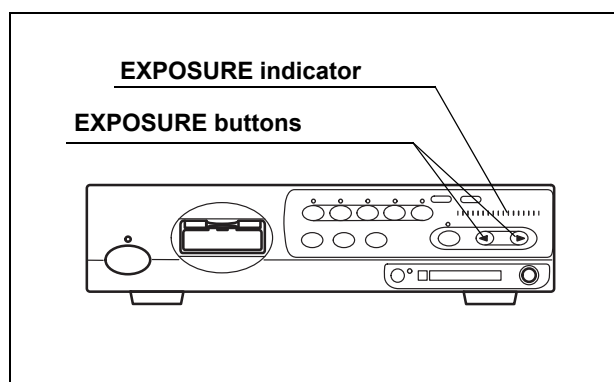

Figure 5.10
2. Set the brightness, using the “EXPOSURE” buttons on the front panel (see Figure 5.10). The brightness level is displayed on the “EXPOSURE” indicator.